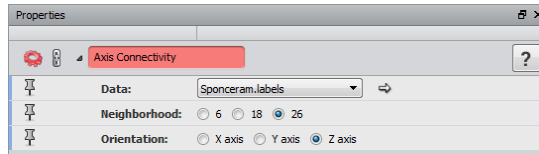

Figure 22.6: Axis Connectivity Module Configuration
3. Apply an *Axis Connectivity* module on the *Sponceram.labels*. Select a Neighborhood of 26 voxels in the neighborhood port. This allows keeping only the connected porosity of the sample (see Figure 22.6).